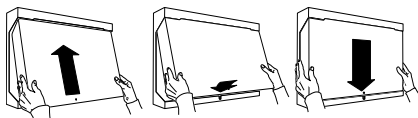

Figure 39 Replacing the control unit lid.
- a) Fit the lid of the control unit into the back of the case (see Fig 39).